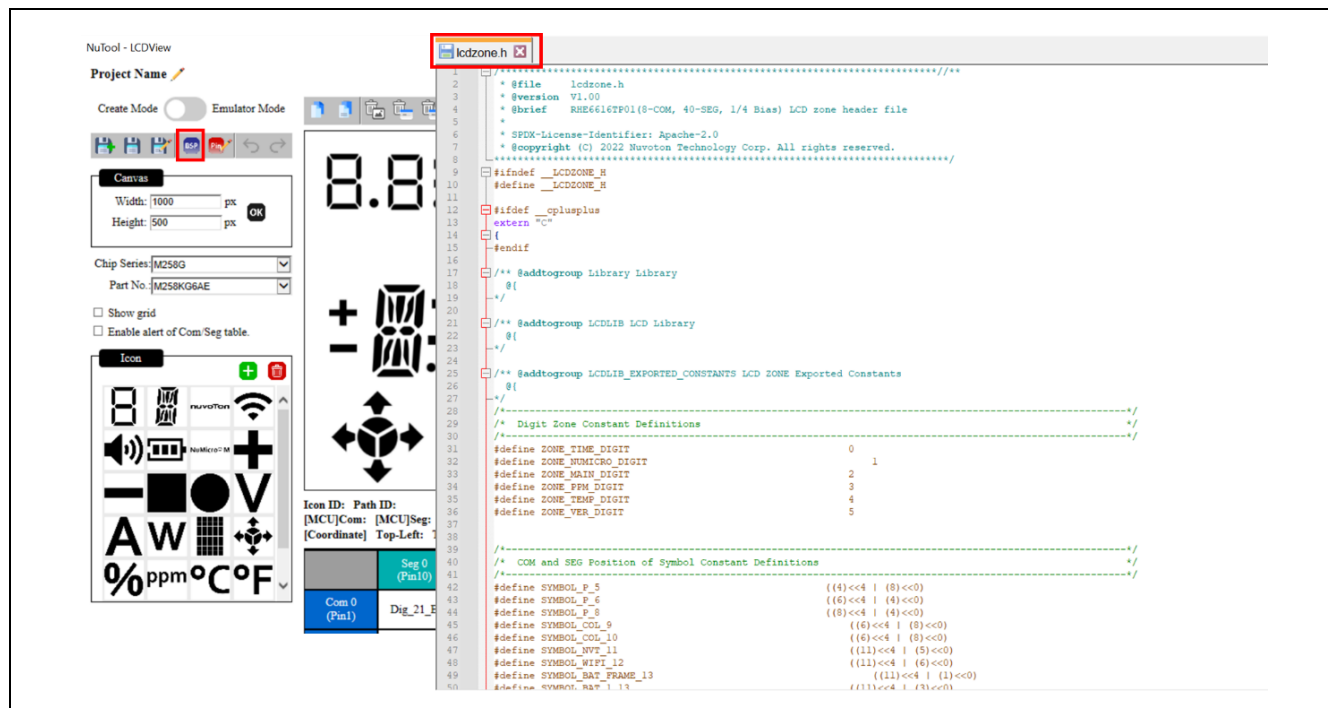

Figure 1-11 Generate lcdzone.h by Clicking BSP Icon
1. Click the BSP icon  to generate the LCD header file, which is called lcdzone.h by default, as shown in Figure 1-11.